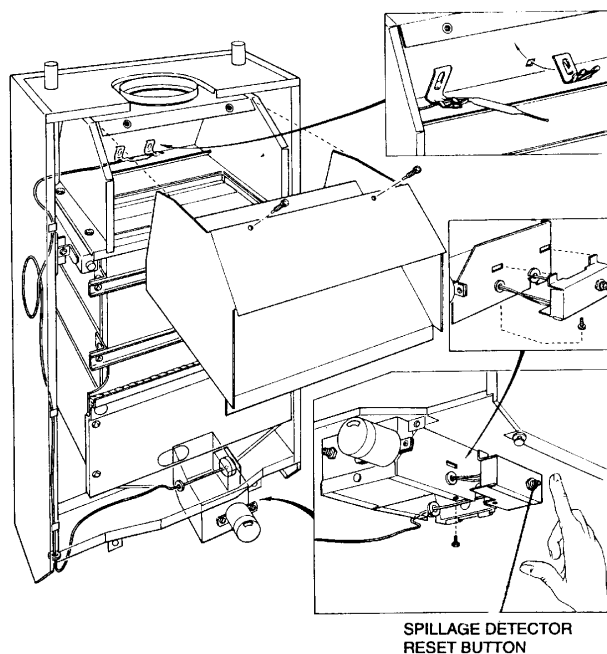

Figure 18a
**NOTE:** If the main burner fails to light turn the boiler thermostat to the off position and check that the spillage detector thermostat reset button (see Fig 18a) is pressed in, then repeat operation. If you have to keep resetting the thermostat, or the main burner fails to light consult the fault finding chart on page 26, Fig 23.